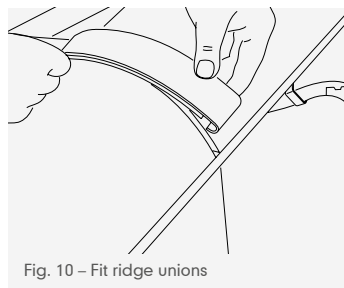

Fig. 10 – Fit ridge unions
- 20 Break off locating lugs on underside of hip/ridge union with pincers or other suitable tool before fitting. Make two small cuts (max. 5mm deep) at either side of block end hip tile to allow claws of hip ridge union to clip onto bead of batten section (Fig. 10, page 181).